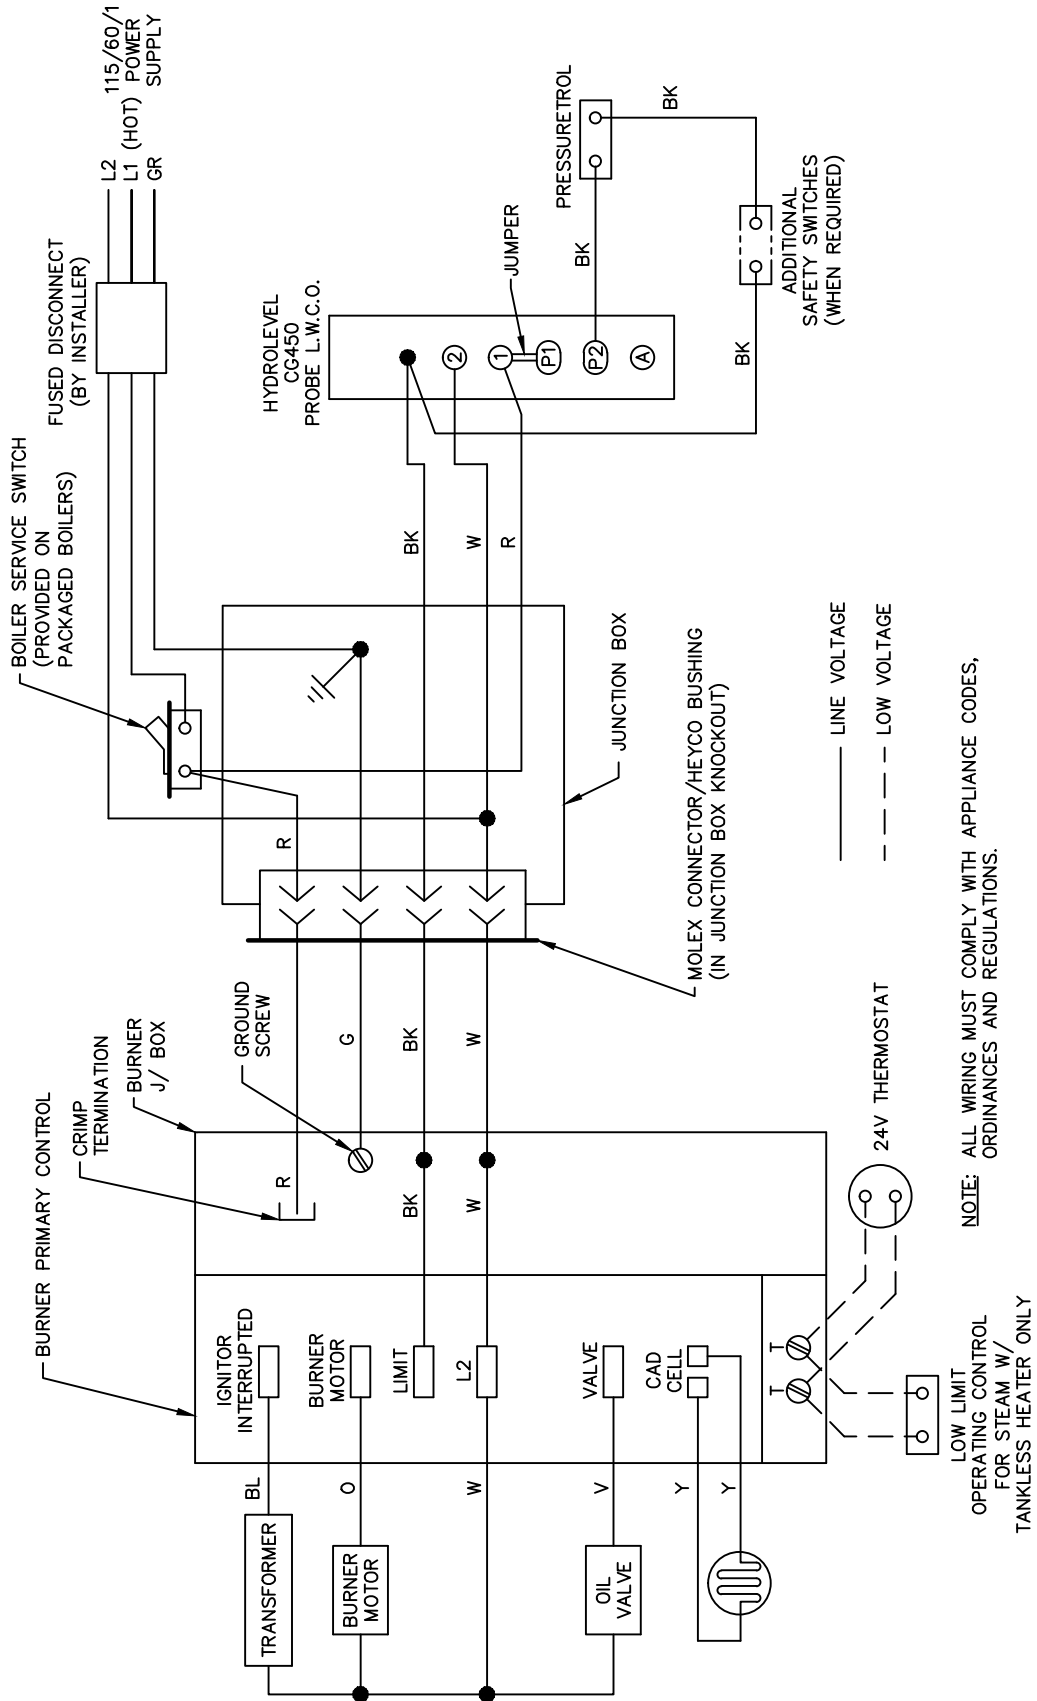

Figure 4.2: Steam with Probe Low Water Cut-off
3. Install control well for low limit operating control into 3/4" NPT control tapping on tankless heater plate. Install low limit operating control on control well. Wire low limit control to oil burner per Figure 4.2.
4. See Wiring Diagram Figure 4.2 for Steam Boilers with Probe LWCO